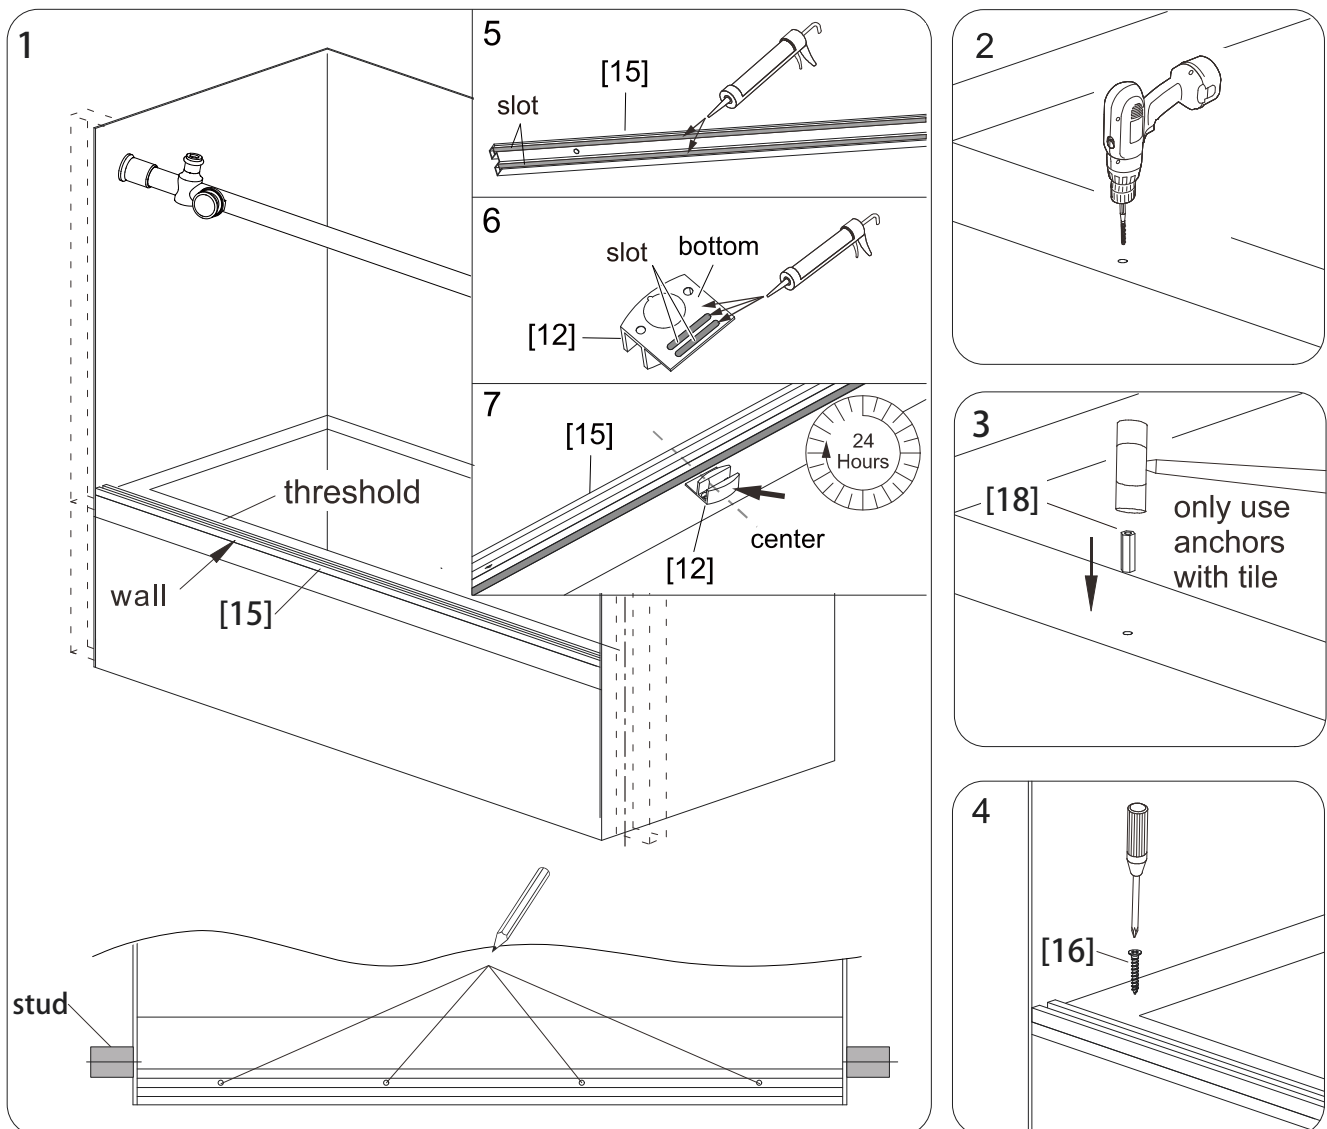

Fig 4b
1. If this shower door is intended to be installed with **Bottom Rail [15]** flushing with the outside wall, slightly position the **Bottom Rail [15]** flushing with the outside wall. If this shower door is intended to be installed with **Bottom Rail [15]** behind the outside wall, slightly position the **Bottom Rail [15]** with outer side of it aligns with the marked lines on the side wall. Mark the screw holes through the **Bottom Rail [15]**. (Fig 4b.1)
2. Remove the **Bottom Rail [15]** and drill a $1/8$ " hole at each marked location if drilling into acrylic or wood material. Drill a $7/32$ " hole if drilling into tile material and insert the **Small Anchors [18]**. (Fig 4b.2, Fig 4b.3)
3. Secure the **Bottom Rail [15]** with **Screws [16]**. Then, skip to Step 5. (Fig 4b.4)
4. Apply a good quality of Silicone Sealant to the slots of **Bottom Rail [15]** and place it to the marked threshold. (Fig 4b.1, Fig 4b.5)
5. Apply a good quality of Silicone Sealant to the slots and bottom surface of **Guide Block [12]** and place it close to the center of back surface of **Bottom Rail [15]** facing to the shower room. Allow 24 hours for the silicone to cure before next step.(Fig 4b.6, Fig 4b.7)